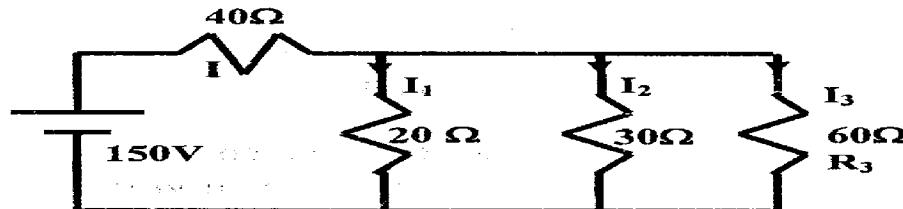

Figure 1
- 1) For the circuit shown in fig.1 Find:**